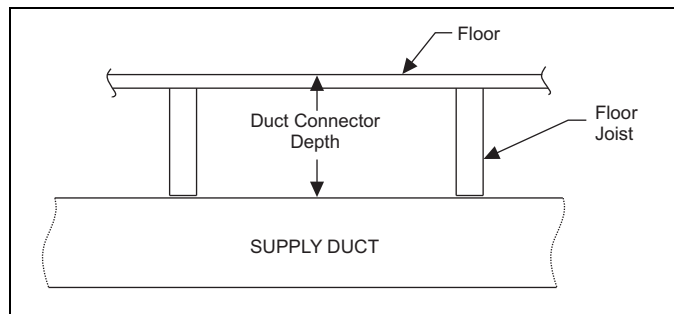

FIGURE 3: Duct Connector Depth (7990 Series)
2. Refer to the unit rating plate for the EB model number, and then see the dimensions page of this instruction for supply air plenum dimensions in Figure 3. The plenum must be installed according to the instructions.
For Upflow installations, a closet 32" (81.3 cm) wide by 30" (76.2 cm) deep with a 30" (76.2 cm) wide door is necessary. See Figure 3.